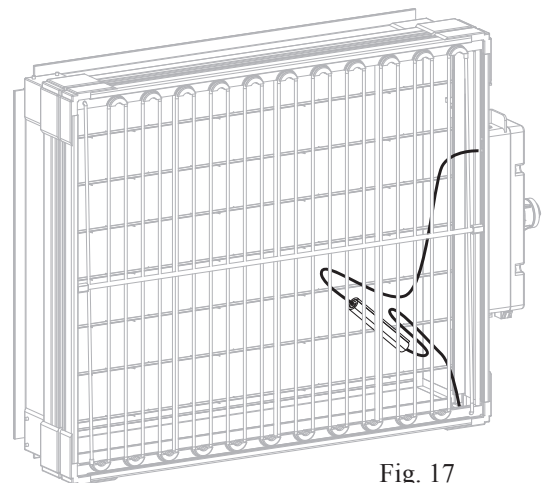

Fig. 17
- 10: Tuck the completed splice behind the media cartridge enhancement grid (Fig. 17).